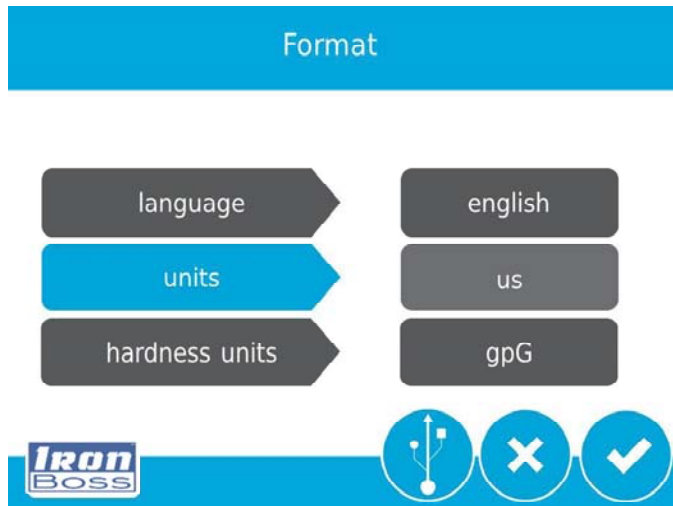

Figure 3 Format Screen
1. Plug in the AC adapter to power up the unit, the Format screen (Figure 3) is displayed.
To assure the system works properly, press to Accept the defaults shown in Figure 3. (English is the only language available. Do not change the units or hardness units from US units).